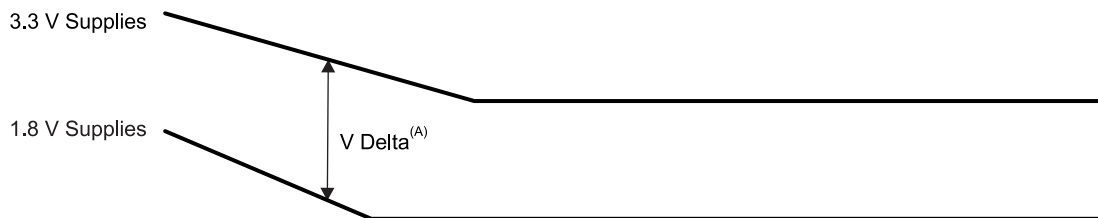

Figure 7-3. 1.8 V Supplies Falling Before 3.3 V Supplies Delta
- (1) The 1.5-/1.8-V DVDD\_DDR[x] and CVDD, CVDD\_x variable supplies can be powered down prior to or simultaneously with the 1.8-V supplies.
- (2) The 3.3 V supplies **must** never be more than 2 V above the 1.8 V supplies (see Figure 7-3).